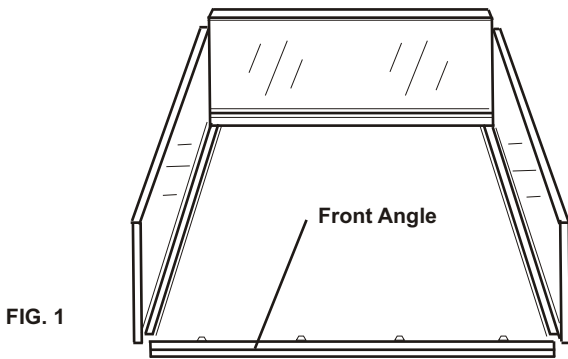

FIG. 1
Four (4) piece all steel construction (see FIG. 1) consisting of: pit walls with curb angles welded to steel side panels (left side, right side and rear) plus front curb angle
1. Site and pour (float finish) to a height below the finished floor (see FIG. 6). It is recommended that 6" (150mm) of concrete be poured under the entire unit. The back of the pit floor should be approximately 1/2" (12mm) higher than the front to allow for drainage. **While the base slab is being poured, locate the front angle (see FIG. 1 and FIG. 6). Be sure the front angle is square level and centrally located for the Pit Kit assembly. Ensure the J-hooks are securely embedded in the concrete.**